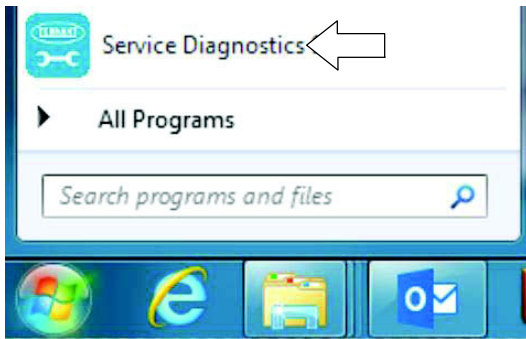
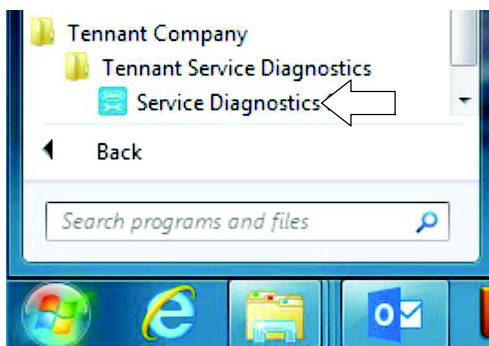

FIG. 16
FIG. 17
1. Access the software through either the desktop icon or the Start Menu. The software application is titled “**Service Diagnostics**”. (Fig. 15/ Fig. 16/ Fig. 17)